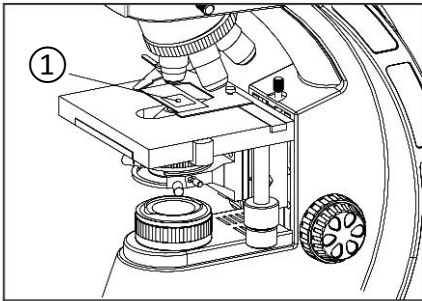

Fig. 17
Place one drop of immersion oil on the lighted area of the specimen slide ① (Fig 17). Dust or air bubbles in the oil can destroy the definition of the image. If the bubbles are trapped between the objective lens and the slide, clean off the oil and start again or try to eliminate the bubble by rotating the objective back and forth.